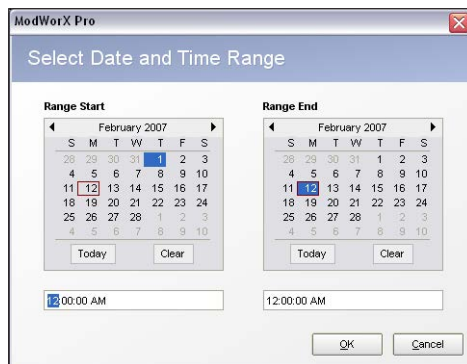

Figure 14.15
- Click on **Set Time Axis Range** and enter a Start date and time and an End date and time using the calendars provided. Figure 14.15, shows the calendar for selecting a range of interval logs. For daily logs, the calendar will prompt the user to enter a Start and End date only (no times).